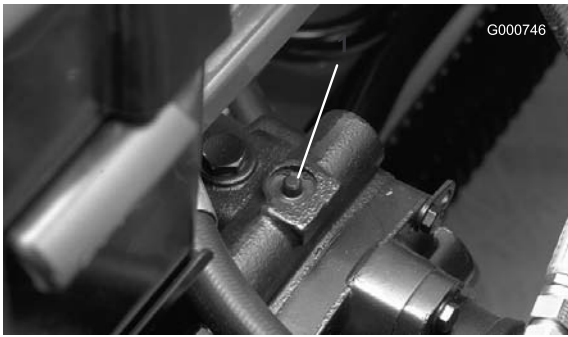

Figure 38
1. The bypass valve is located on top of variable displacement pump (Figure 38). Rotate the valve 90°, in either direction, to open and allow oil to bypass internally. Because fluid is bypassed, the machine can be moved slowly without damaging the transmission.